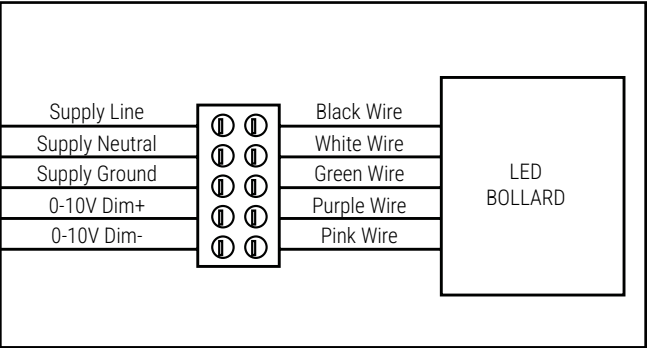

Figure 8.
8. Connect the wires, then tighten the terminal block with a flat-head screwdriver, and check to make sure all wires are in good connection Fig. 8 and tighten flat washer, spring washer, & nuts to 18 ft-lbs. securing the mounting base to the foundation.